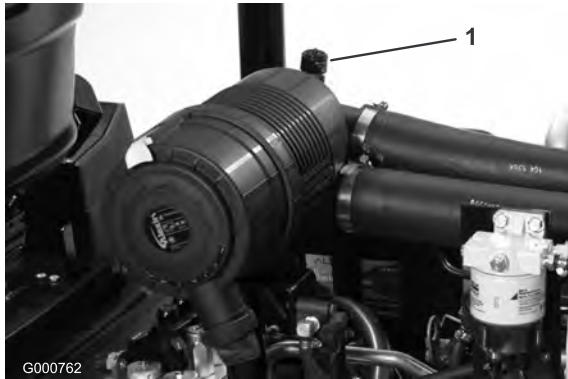

Figure 52
Service the air cleaner filter only when the service indicator (Figure 52) requires it. Changing the air filter before it is necessary only increases the chance of dirt entering the engine when the filter is removed.
6. Reset the indicator (Figure 52) if it shows red.